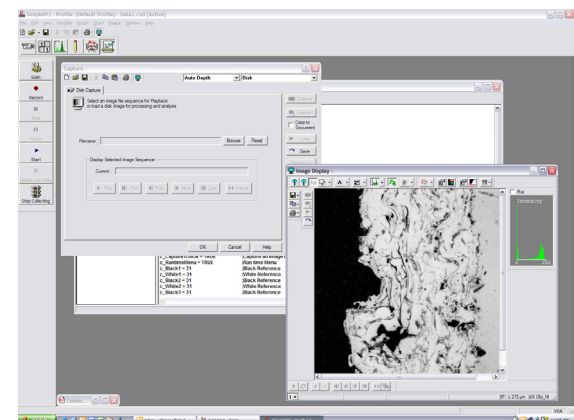

fig.30
11. Click the **Start** icon (**fig.30**) in the **Task** toolbar. The **Capture** window and the **Image Display** appear. Open the **Coating Thickness.tif** image if it's not open. Click **OK** on the **Capture** window. The **Workfile** will complete one cycle of the process and return to the **Capture** window. Other images may be open for multiple field analysis. In this example, there is only one image; therefore, click on the **Stop Collect** button to close the **Capture** window and exit the operation loop. Close the **Image Display**.